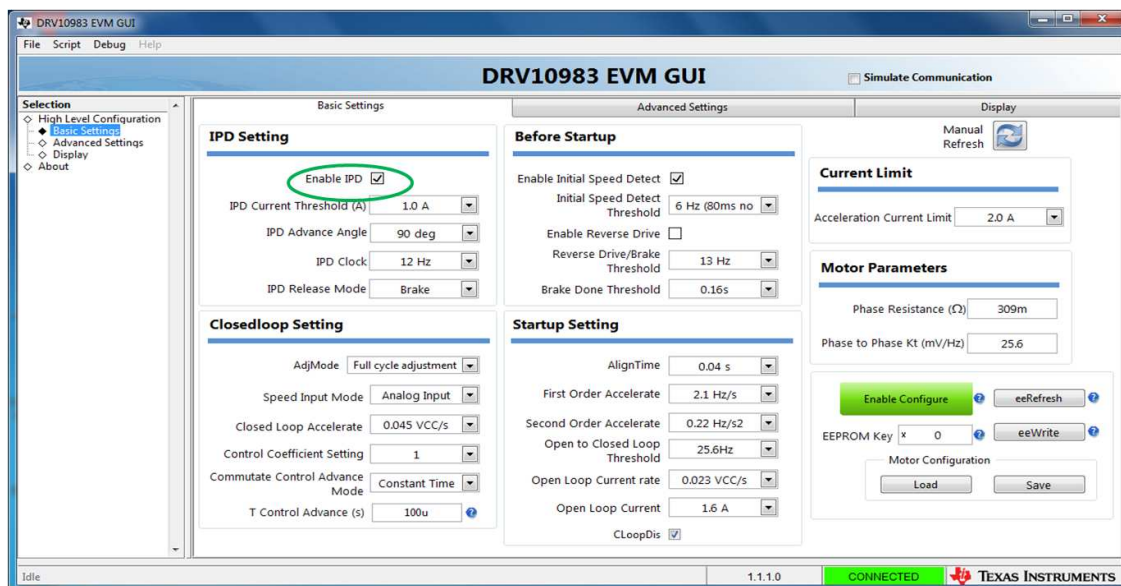

Figure 7. DRV10983x/75 EVM GUI Screenshot
- Step 3. Turn ON the power to the EVM and launch the GUI. Check box 'Enable IPD' to use IPD (see Figure 7).